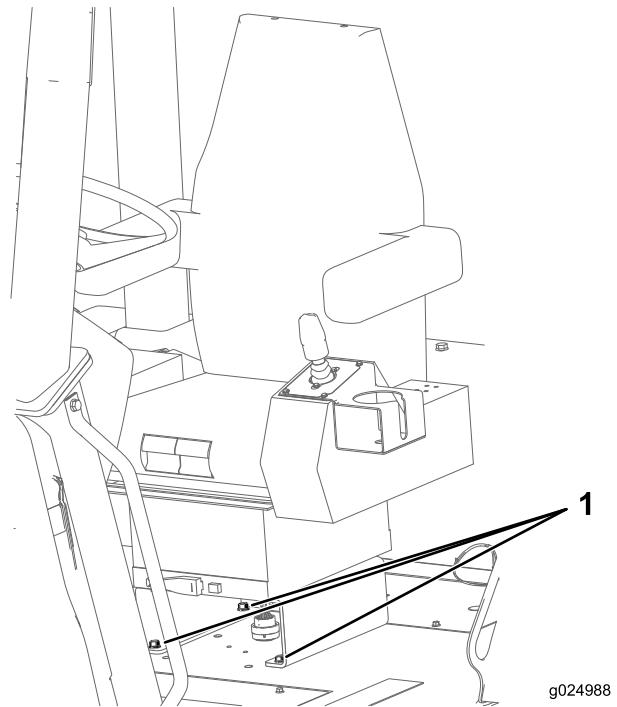

Figure 113
1. Check that the bolts that secure the seat to the chassis of the machine are torqued to 27 to 34 N·m (20 to 25 in-lb); refer to Figure 113.